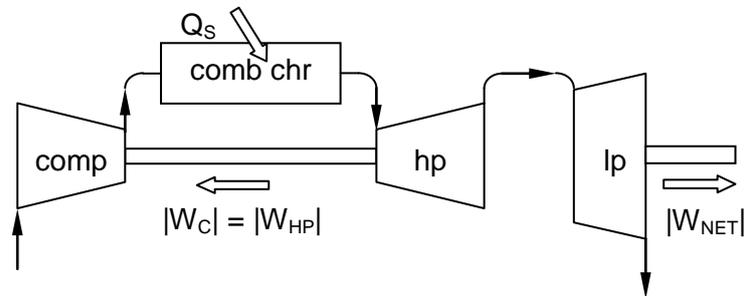

Fig Q3
3. The layout of a gas turbine plant is illustrated in Fig. Q3. The plant operates between pressures of 1.00 bar and 23.00 bar. The HP turbine drives the compressor, and the LP turbine drives the load. Air enters the compressor at temperature of 300 K. Combustion gases enter the HP turbine at 1530 K. The isentropic efficiency of the compressor is 0.80, and that of each turbine is 0.90. For the compression process, $\gamma = 1.4$ and $c_p = 1.005$ kJ/kg K. For the remaining processes, $\gamma = 1.33$ and $c_p = 1.150$ kJ/kg K. The mass flow rate of exhaust gas is 110 kg/s, and the calorific value of the fuel is 40 MJ/kg.